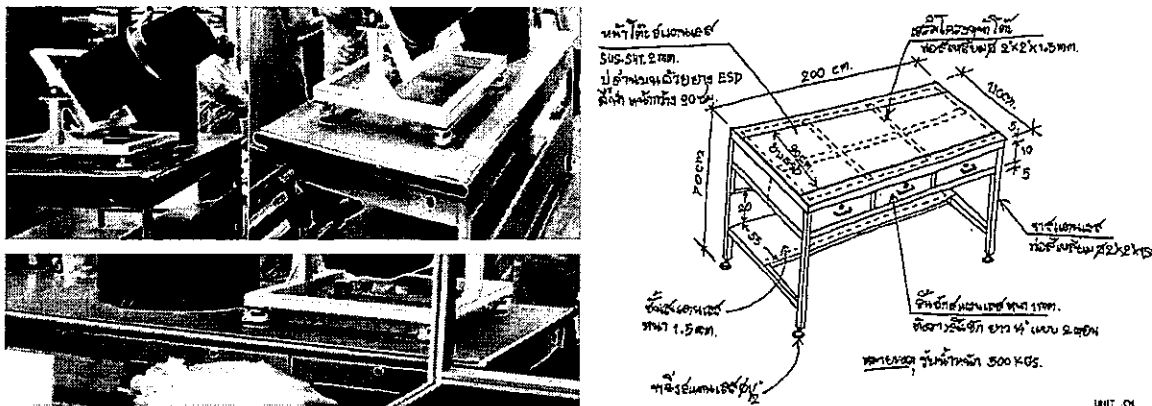

Figure 10: Example of table for holding satellite*
4.2 Table for holding satellite in Clean Room Class in accordance to ESD-Safe standard (Electro Static Discharged) with anti-static mats (example in Figure 10) (2 sets)